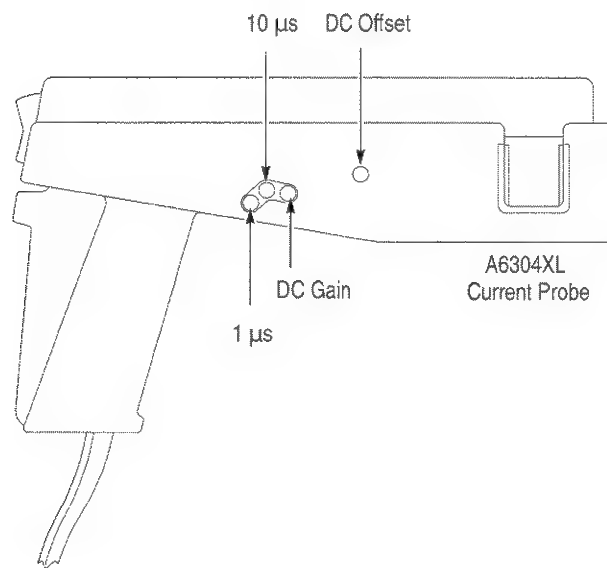

Figure 6–6: A6304XL Adjustment Locations
7. Remove the probe access plug for the DC Offset adjust (see Figure 6–6).